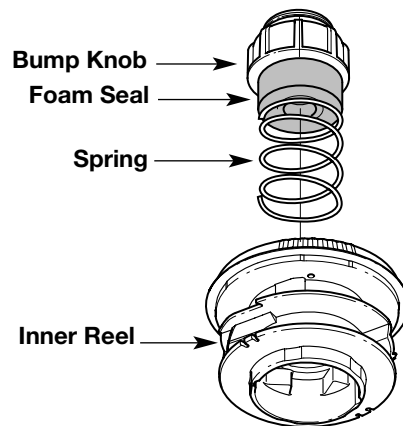

Fig. 47
1. Turn the bump knob counterclockwise and remove the bump knob, spring and foam seal (Fig. 47).